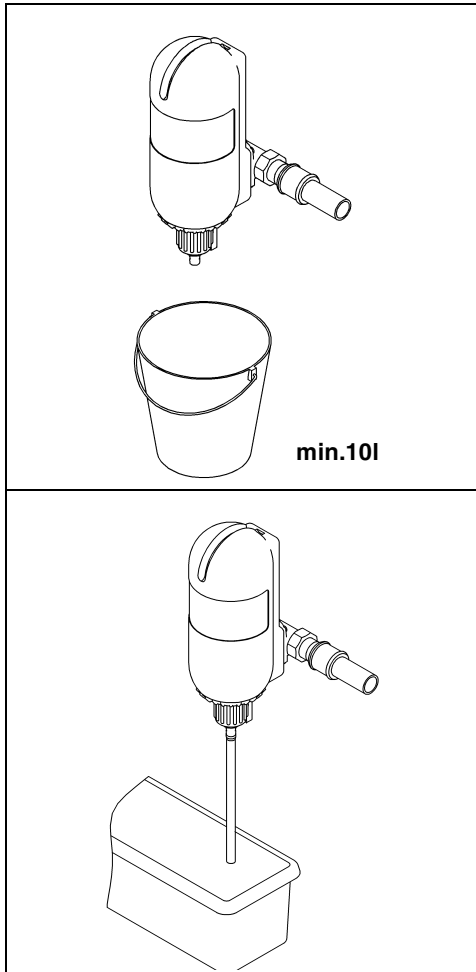

Fig. 4: Backwashing water discharge options
- When the bucket is half full the backwashing process must be ended. Otherwise the bucket can overflow. Therefore the bucket must be adequately dimensioned (see Fig. 4).